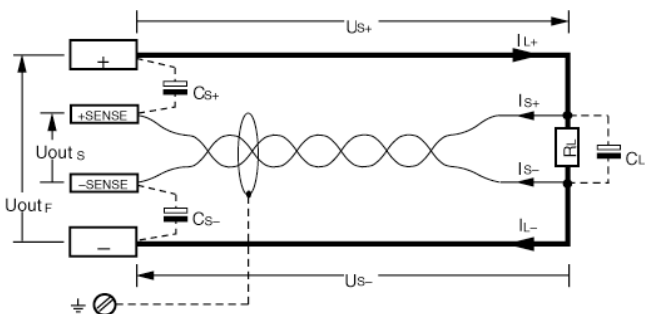

Figure 7.2 Connecting the Consumer for Sensing Mode Operation
The parameters and limit values included in figure 7.2, and in the chapter entitled “Electrical Data”, apply to operation with the sensing leads.
- Long output and sensing lead impedances may result in control fluctuations at the output, especially with capacitive consumers. This effect can be counteracted by connecting capacitors (CS+, CS-) between the SENSE and output terminals (see figure 7.2). If the output leads are twisted, their impedance can be reduced as well.